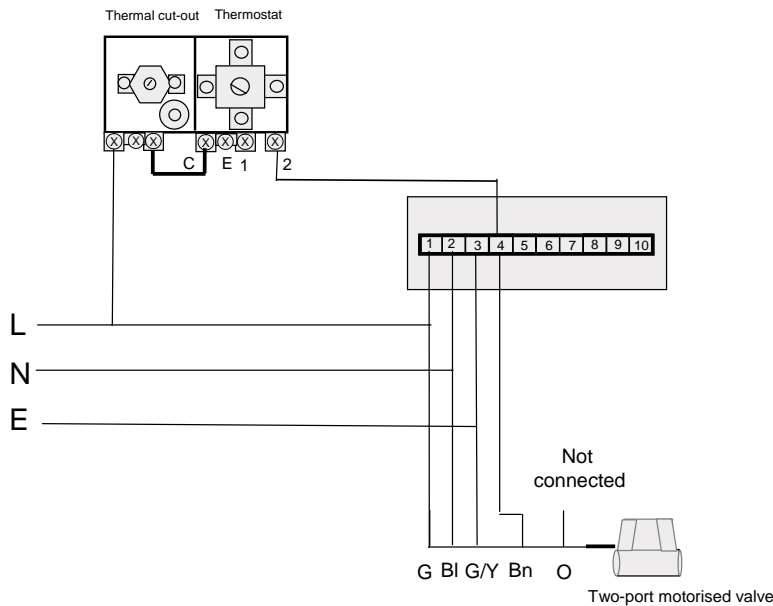

Fig 7.2
- 7.2.1 The two port valve should be wired to the twin thermostat as per Figure 7.2 below: